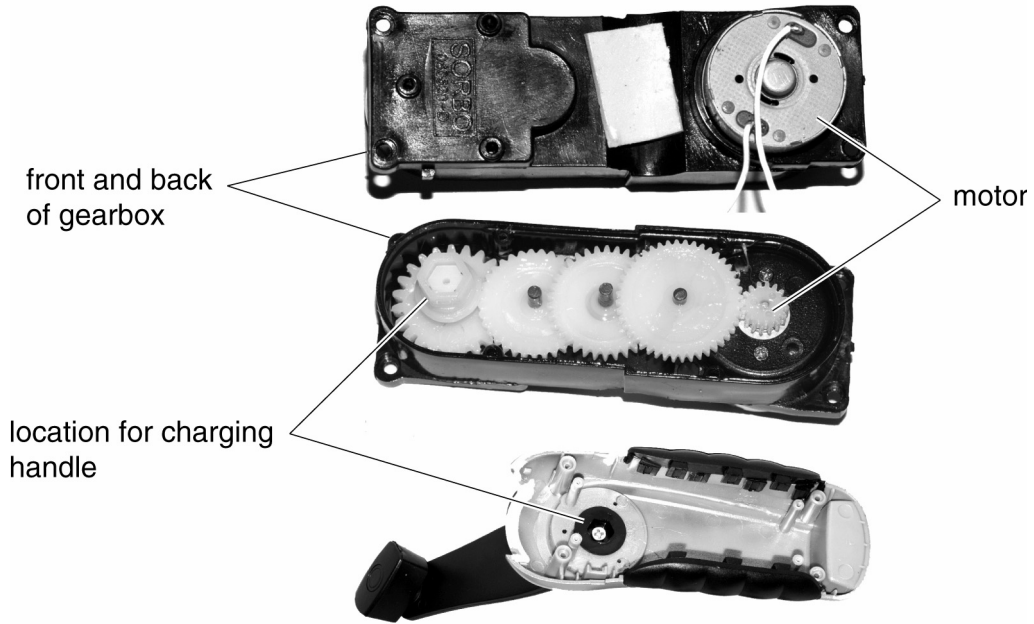

Fig. 6
- (e) The charger for the torch uses a system of gears to rotate a dc motor shaft at high speed as shown in Fig. 6.